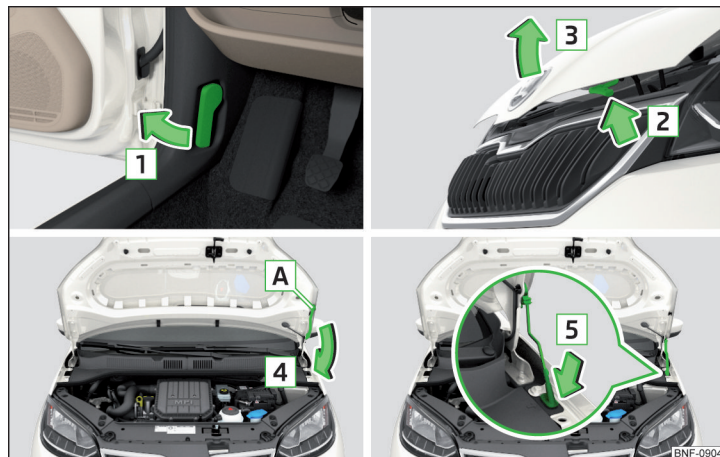

Fig. 138 Opening the bonnet
- Open the front door and pull the release lever below the dash panel in the direction of arrow 1 » Fig. 138.